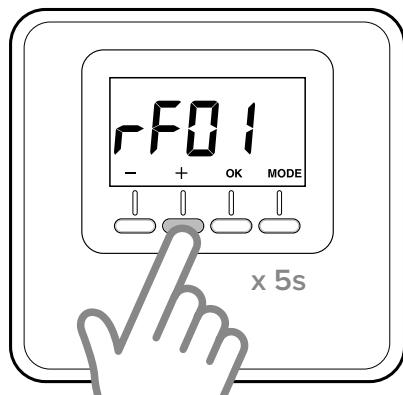

Fig. 18
- Hold “+” down for 5 seconds again to enter the technical parameters menu; parameter “rFO1” will display (Fig. 18)